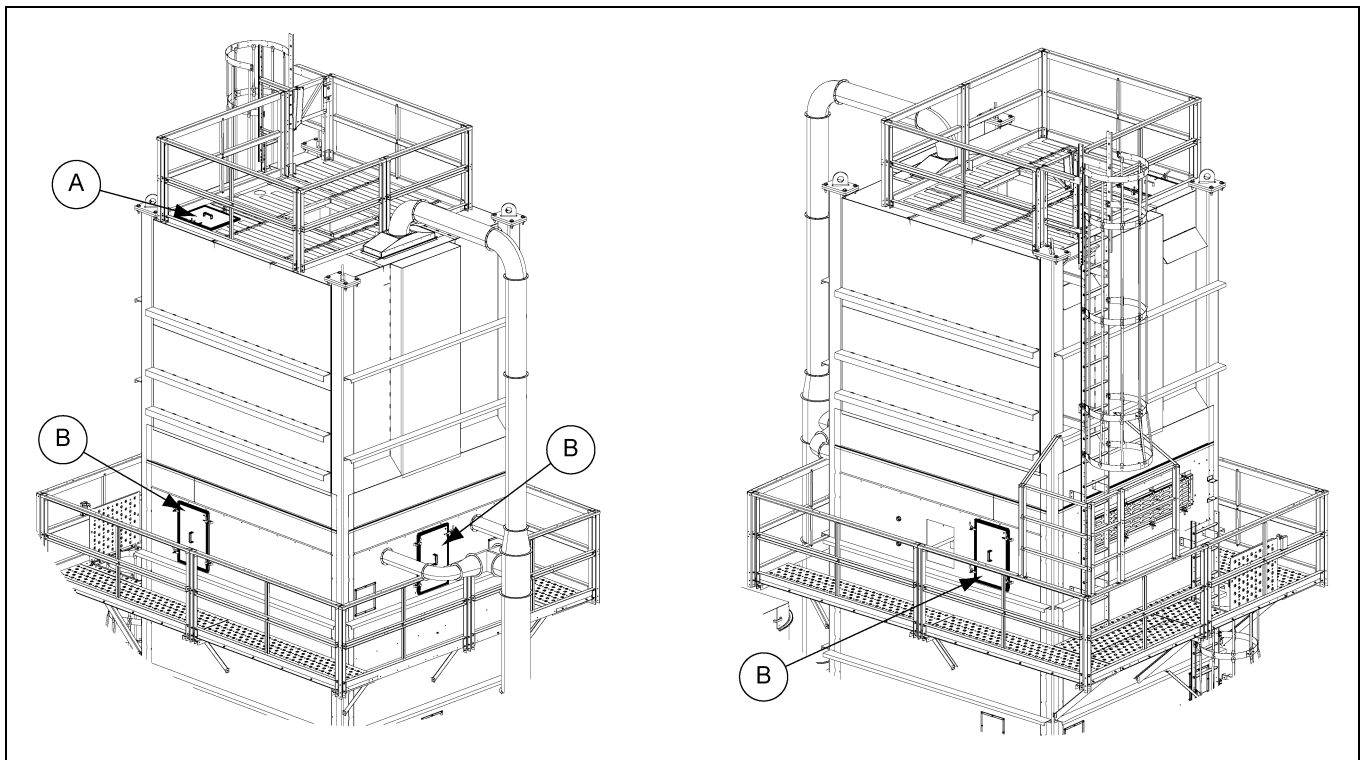

Figure 2V Service Access Panels
d. Service access panel safety switches (x 4). (See Figure 2V on Page 33.) Use 4 core + earth.